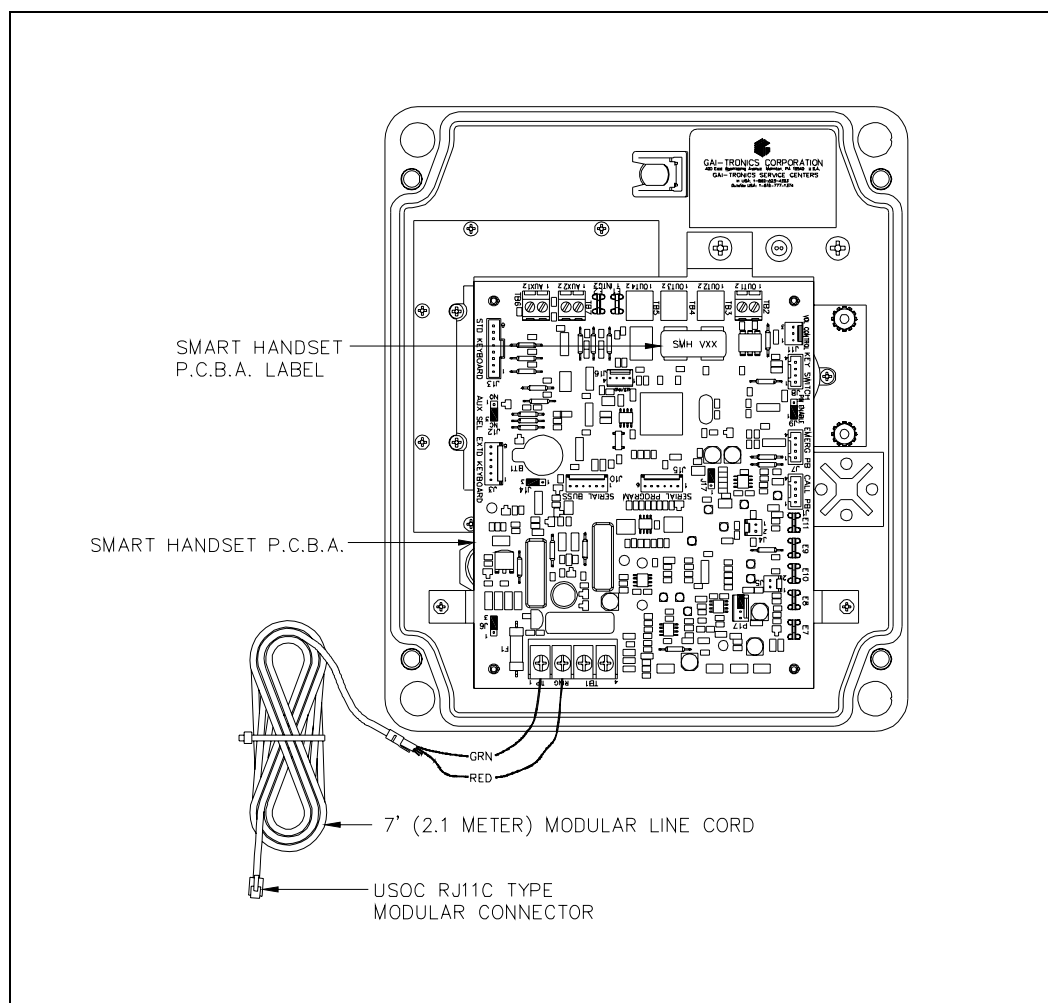

Figure 2. PCBA Connections for Models 246-003, 247-003, 256-003, and 257-003
1. Align the holes of the new PCBA with the snap-on nylon standoffs in the telephone, maintaining proper orientation. See Figure 2.